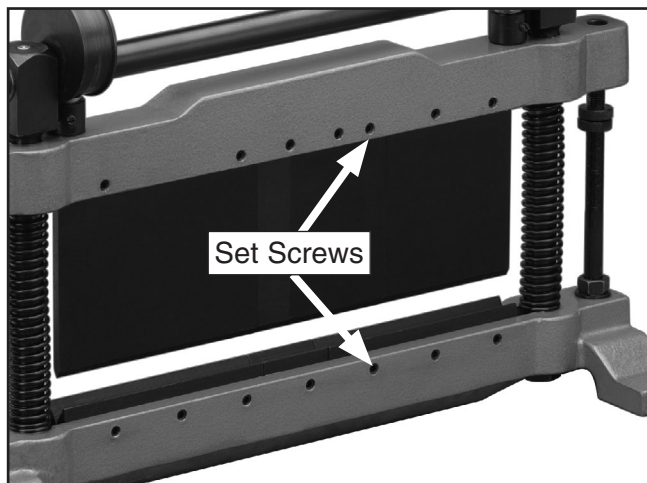

Figure 10. Set screw locations.
3. Loosen the set screw(s) that hold the fingers and dies you wish to remove (**Figure 10**).